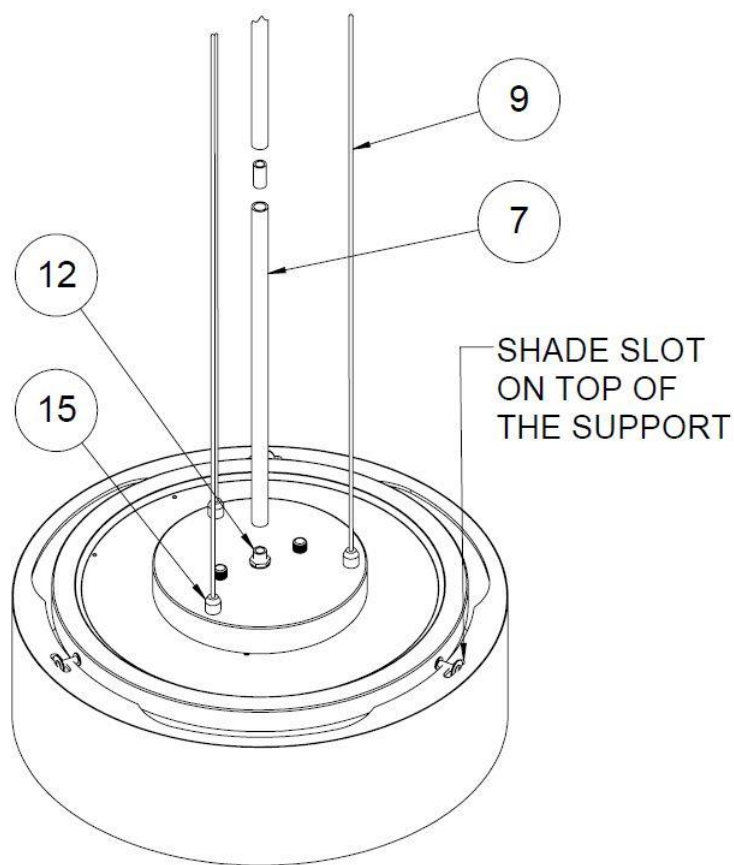

FIG 2
- For NEC (National Electrical Code) requirements, cut the wire about 7" above the canopy (4) and then strip 3/8" from the ends of the four color coded wires.
- Connect the white wire from the fixture to the white (N) wire from the supply power source.
- Connect the black wire from the fixture to the black (L) wire from the supply power source.
- Line up the two holes in the canopy (4) with the two screws in the mounting bracket (1). Secure fixture to screws (3) with two finials (6).
- Adjust the aircraft cables up and down by pressing the "Spring Pin" (14) upward and holding until the proper cable length is attained.
Step 6 – Mounting Diffuser (Fig 2)
- The diffuser (13) has three notches in its upper flange. Align these large notches with the shade mounting support (10) on the outside of the fixture (11), then gently lift the diffuser up slightly pass the mounting support.
- Rotate the diffuser clockwise or counterclockwise until the mounting support (10) rest within each diffuser slot. **Note:** all 3 mounting supports must be inside the shade slot.